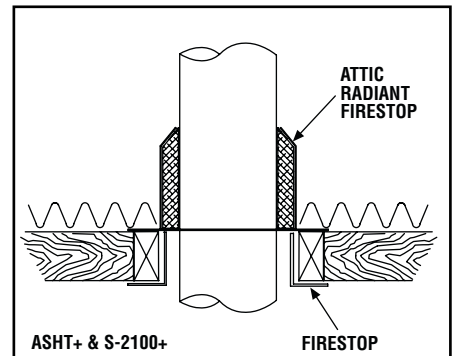
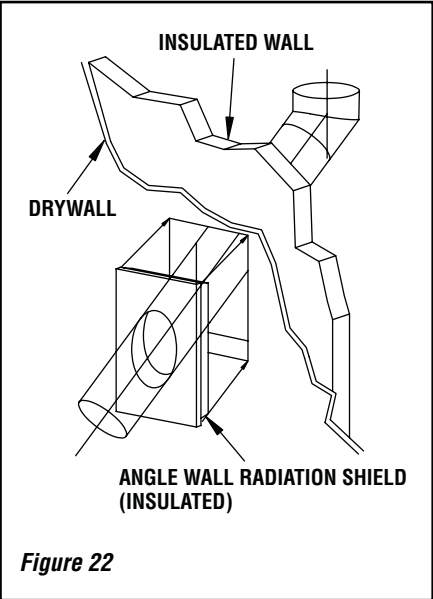

Figure 17A
Figure 22
From below, install a firestop in each ceiling/floor separation through which the chimney will pass. At the attic level, install an attic radiation shield from above (see **Figures 17A & 17B**).
1. Install the first elbow. Turn it in the required direction. Fasten it to the chimney with the three (3) 1/2" (12mm) metal screws provided.
2. Install the necessary lengths to achieve the required offset. Lock the chimney lengths together: it is recommended to use three (3) 1/2" (12mm) screws. If the offset length is made of two (2) chimney lengths use an offset support halfway up the offset. If penetrating a wall, install a wall radiation shield (see **Figure 22**).
3. Use another elbow to turn the chimney vertically. Secure the elbow, using three (3) 1/2" (12mm) screws.
5. From below, install a radiation shield (**Figure 17A**).
2. Install the necessary chimney lengths to achieve the required offset. Lock the chimney lengths together. If penetrating a wall, use a wall radiation shield (**Figure 22**).
When traversing a combustible wall with the chimney at a 30° or 45° angle, an angled firestop and/or wall radiation shield must be installed. Only one is required (Figure 22). Table 6 gives recommended hole size for installing a wall radiation shield.